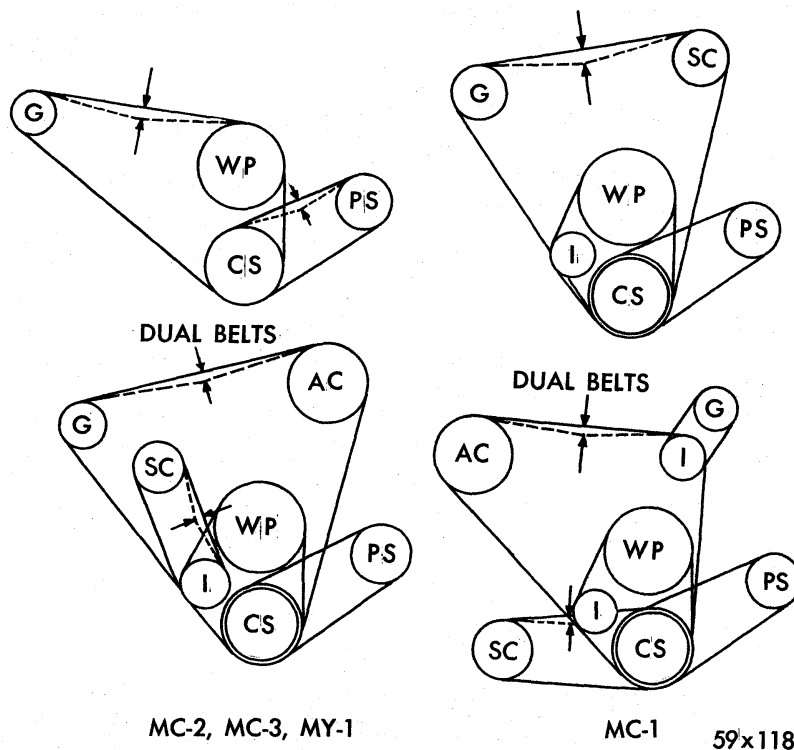

Fig. 29 — Belt Deflection Location
**Belt Deflection Method** — All belts can also be adjusted by measuring the deflection of the belt at the mid-point between two pulleys under a five-pound push or pull. A small spring scale can be used to establish the five-pound load. See Figure 29 for correct location at which to measure deflection.
Deflection (inches) to be Applied at Mid-Point of Belt Segment Under a 5 pound Load—See Figure 29